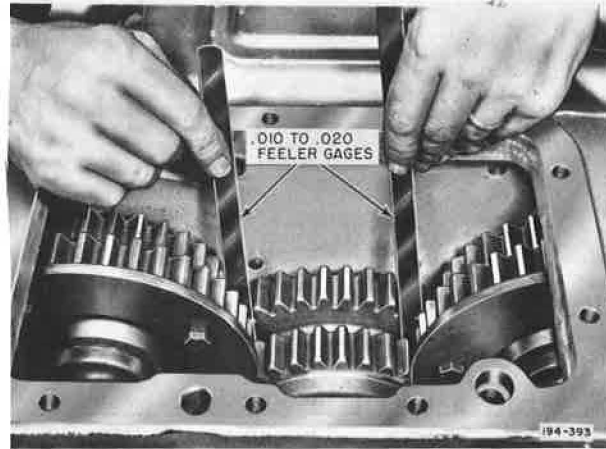

Figure 5-183. Checking Main Driving Pinion Hi-range Gear End-play
28. With two identical feeler gages inserted between compound main driving pinion and main driving pinion Hi-range gear thrust washer (Lo-range gear for TRDXL107, 1071) check for recommended end-play clearance. See Figure 5-183.